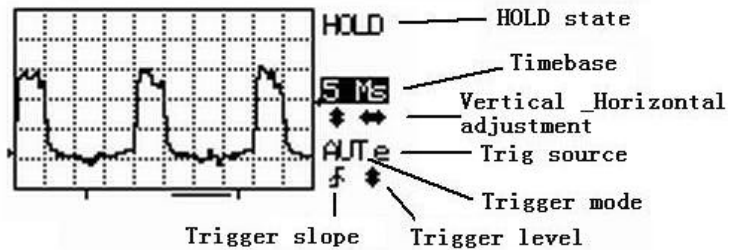

Fig. 2
- 5) Scope setting indicators – their meanings are shown in Fig. 2.